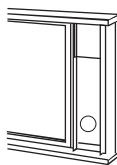

Fig.14
3. Cut the foam seal (adhesive type) to the proper length and attach it on the top of the window kit. See Fig.14.